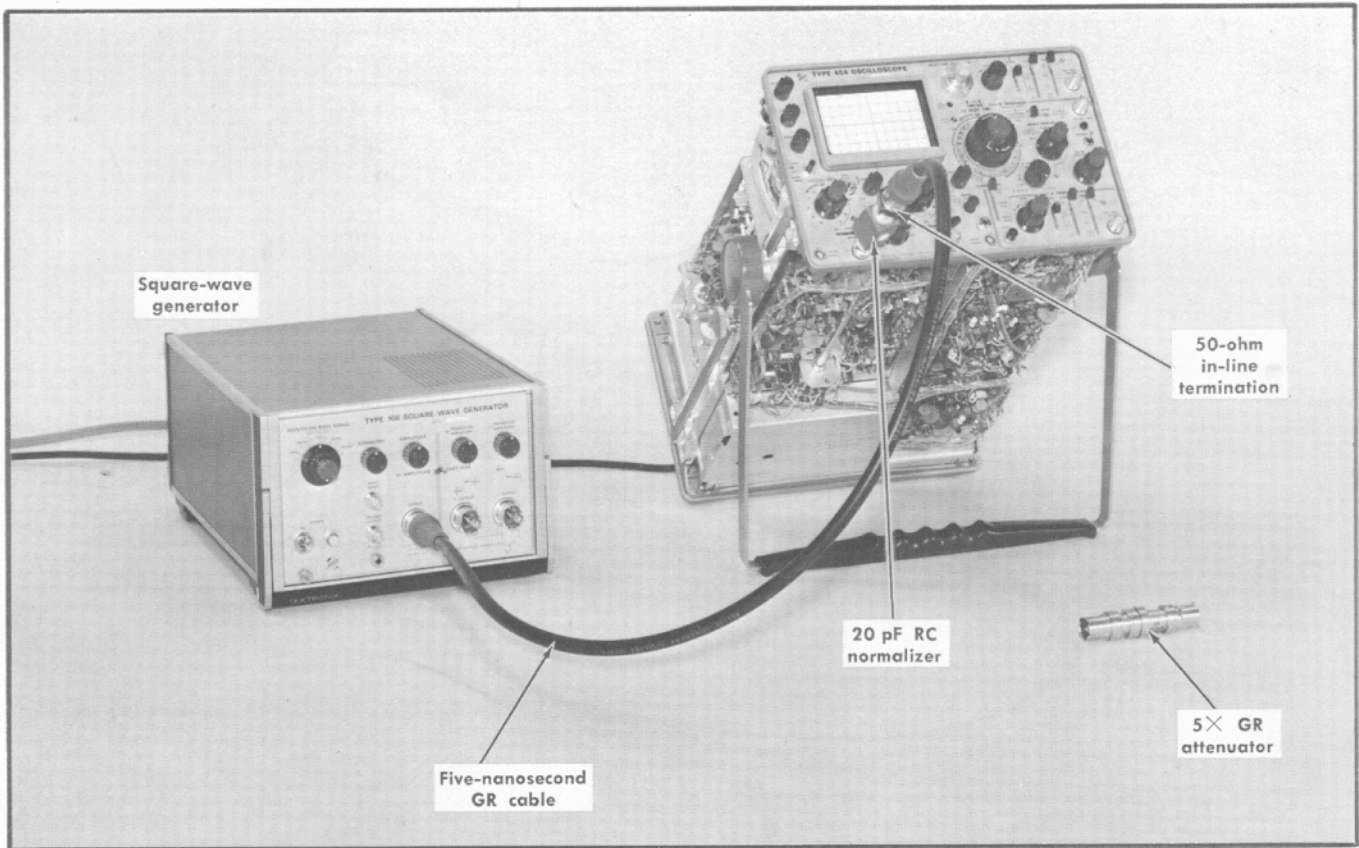

Fig. 6-22. Initial test equipment setup for steps 24 through 26.
- a. Test equipment setup is shown in Fig. 6-22.